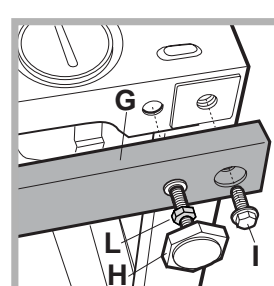

Fig. 11
the two crossbars (G); the 4 feet (H); the 4 screws (I); the 4 nuts (L) then perform the following operations (*fig. 11*):